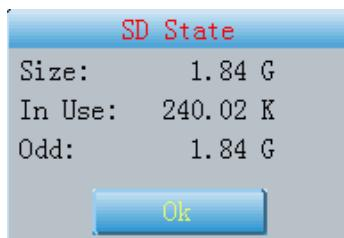

Fig. 7-4
2.  Click this icon to check the state of SD card, as Fig.7-4.